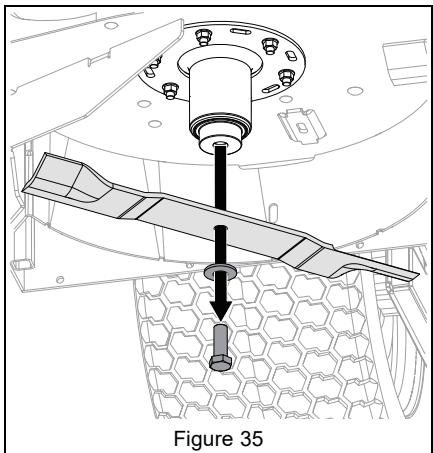

Figure 35
2. Disconnect spark plug wires. See Figure 35.
See Figure 35.